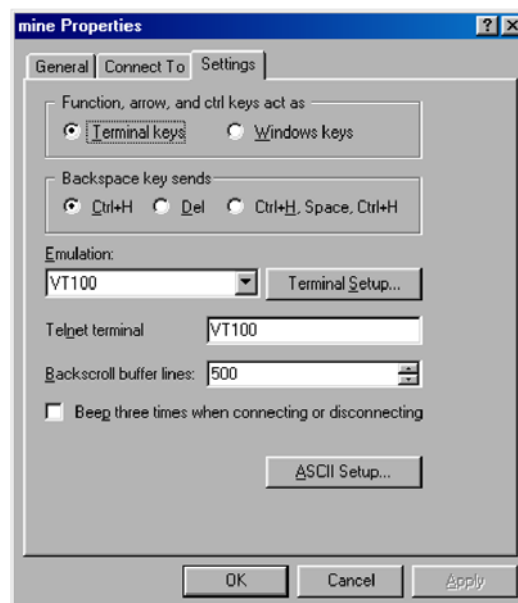

Figure 17. Terminal keys configuration
- Configure the settings for *Function, arrow and ctrl keys act as to Terminal keys* as shown in figure 17, then click **OK**.